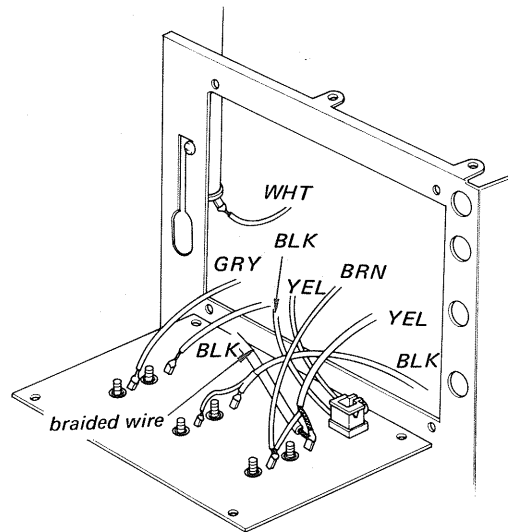
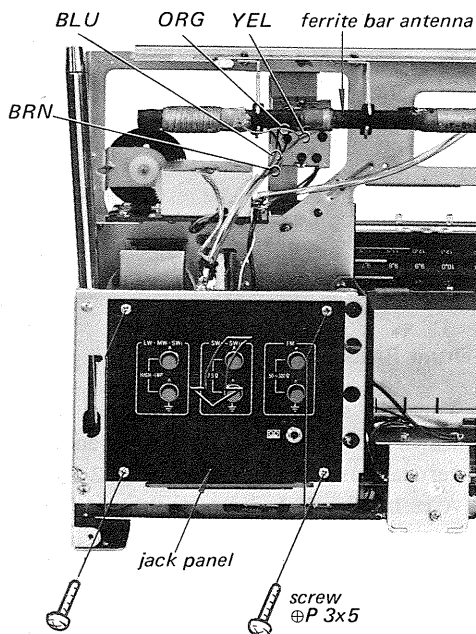

Fig. 2-11
Fig. 2-10
3. Remove the four screws at the jack panel as illustrated in Fig. 2-10 and unsolder the nine lead wires shown in Fig. 2-11.
2. Unsolder the six lead wires at ferrite bar antenna as shown in Fig. 2-10.